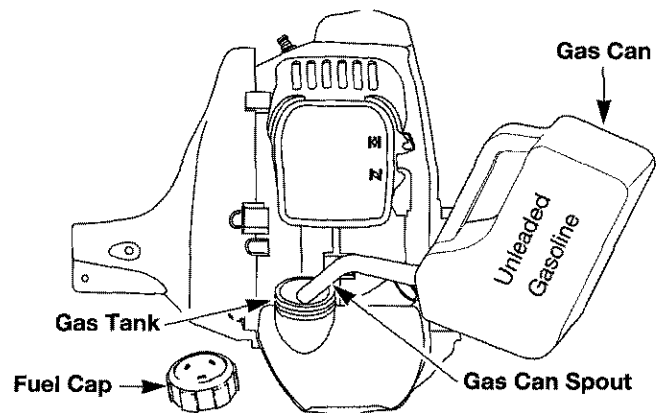

Fig. 4
1. Remove gas cap (Fig. 4).
2. Place spout of gas container into the fill hole on the gas tank (Fig. 4) and fill tank.